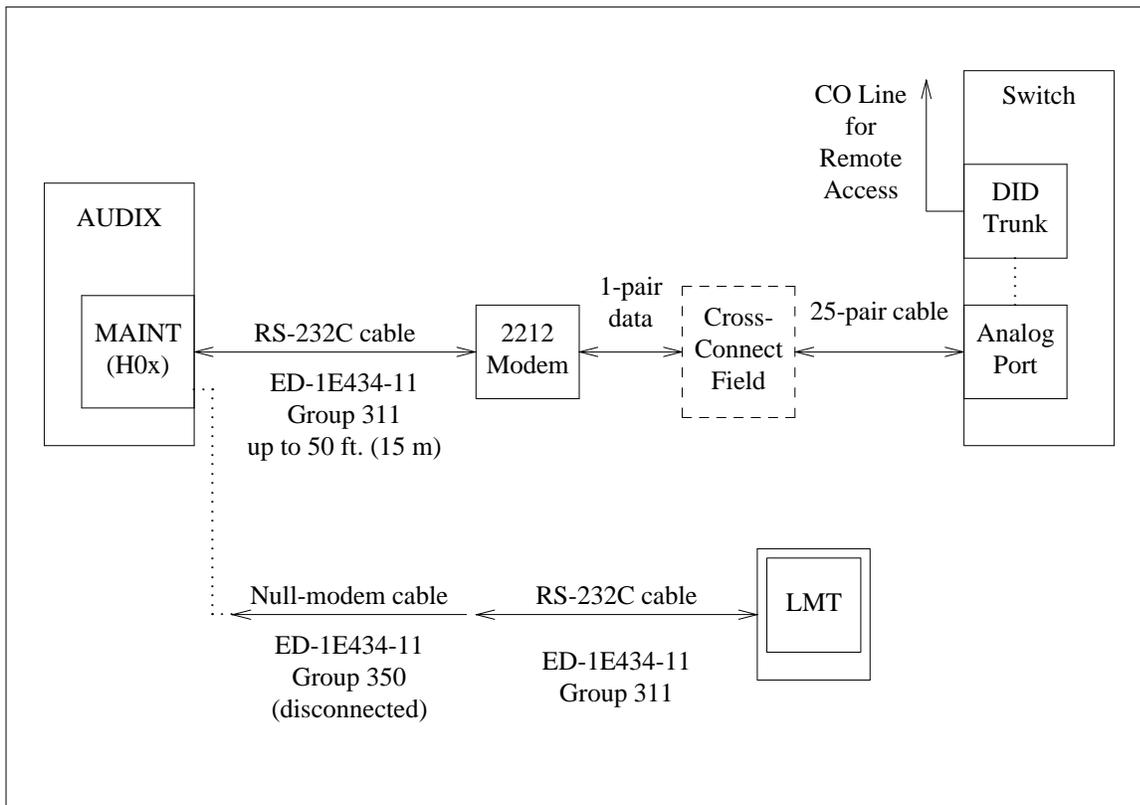

Figure 6: Remote Maintenance Terminal Cabling
- Remote maintenance link connecting AUDIX to a remote maintenance site (recommended for all systems and networks). See figure 6.
Two maintenance links are required for AUDIX: local and remote. These links share the same connector (when the local maintenance terminal is in use, the remote maintenance link is disconnected). The remote link should be connected at all times *except* when the local link is being used by on-site service personnel (see figure 6). Usually a 2212, 212AR, or equivalent modem is attached to the MAINT connector for the remote maintenance link. The MAINT connector is labeled H00 on AUDIX and H02 on AUDIX-L.